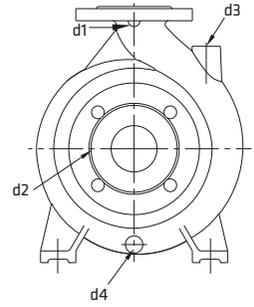

**Figure 4**
- Pressure and vacuum gauges must be properly anchored and connected at the measuring points located on the pump flanges by means of or on the pipes close to the flanges approximately 8 mm diameter tubing with pig tail configuration to lessen pressure fluctuation. For safety purposes isolating and vent valves should be fitted before the gauges (**Figure 4**).